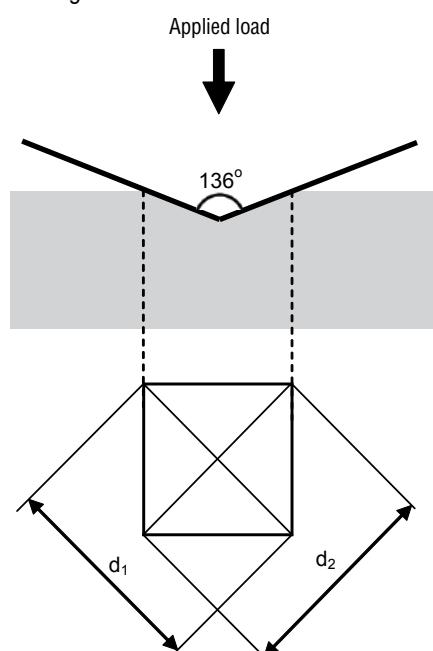

Figure 10:
The Vickers Hardness (HV) is calculated by measuring the diagonal lengths of an indent left by introducing a diamond pyramid indenter with a given load into the sample material, see Figure 10. The size of the indent is read optically in order to determine the hardness. The hardness value can be obtained from a table or formula after determining the mean value of the two measured diagonals or directly in an automatic hardness tester. The Vickers scale ranges from 10 gf to 100 kgf. For Vickers hardness testing, the obtained hardness value is relatively unaffected by the applied load. For spacing between Vickers indents, see Figure 23.